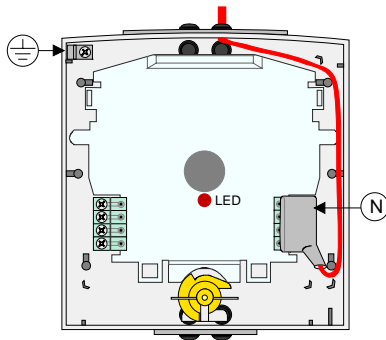

Fig. 7
Connect the shield of the connection cable to the ground terminal in the upper left corner of the housing base (Fig. 7).
To achieve a higher protection rating from IP 44 to IP 55 cover the terminals with the appropriate protective cap (N) (Part No. 704917). In addition the mounting screws of the detectors enclosure must be fitted with sealing washers. Install inlying cable with a dripping bend to protect the device from dampness (Fig. 7).